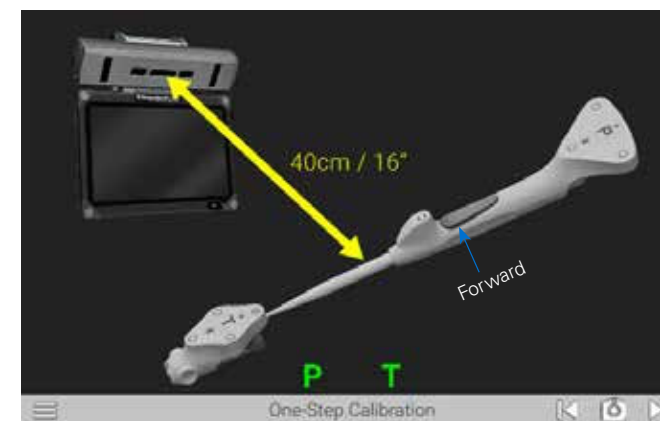

Figure 28
The One-Step Calibration screen is displayed (Figure 28). Place the tip of the Probe Tracker (P) into the dimple node at the top of the TTracker. Hold both together **no more than 16 inches (40 centimeters)** from the display unit ensuring the white diodes are facing the camera.